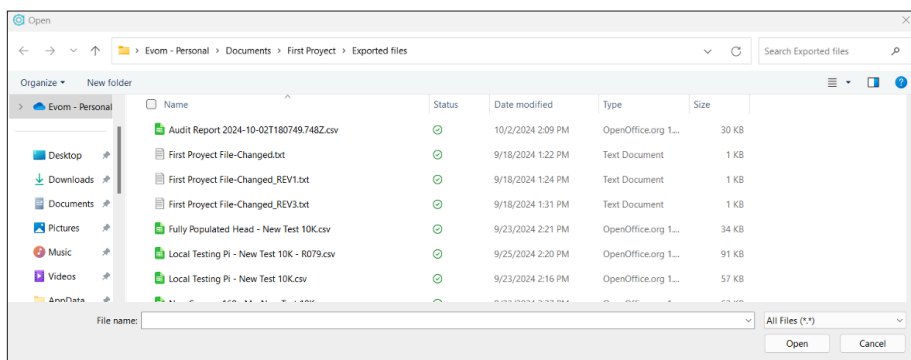
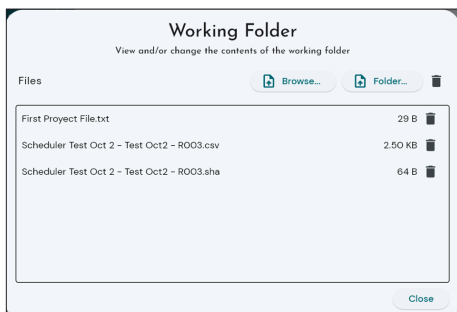

Fig. 48—Select the file or folder you wish to upload to your working folder.
Fig. 49—The working folder list updates with the imported files.
2. Press the *Browse* button to upload a file into the working folder, or press the *Folder* button to upload an entire directory. When either of the import buttons is clicked, a popup appears (Fig. 48) allowing you to browse to a location where your file or folder is stored. Your selected file or folder is imported into the working folder and shown in the working folder window (Fig. 49).